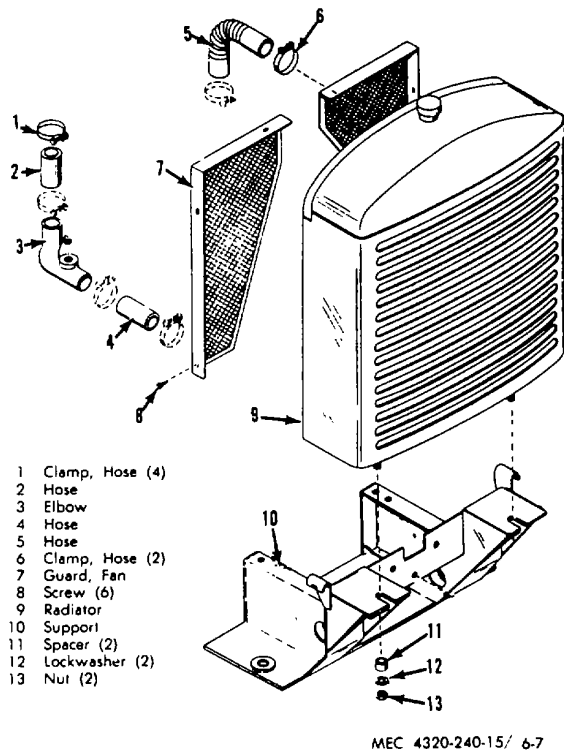

Figure 6-7. Radiator removal and Installation.
- (2) Drain cooling system.
- (3) Remove 4 capscrews that fasten hood to radiator.
- (4) Refer to figure 6-7, and remove the fan guard by removing screws (8).
- (5) Refer to figure 6-7, remove nuts (13), washers (12), spacers (11), and radiator (9).
(1) Drain coolant from system.
(2) Refer to paragraph 6-10b and remove rocker arm shaft.
(3) Refer to paragraph 6-11b and remove manifolds.
(4) Refer to figure 6-7 and loosen clamp (6) at thermostat housing and slide hose assembly away from thermostat housing.